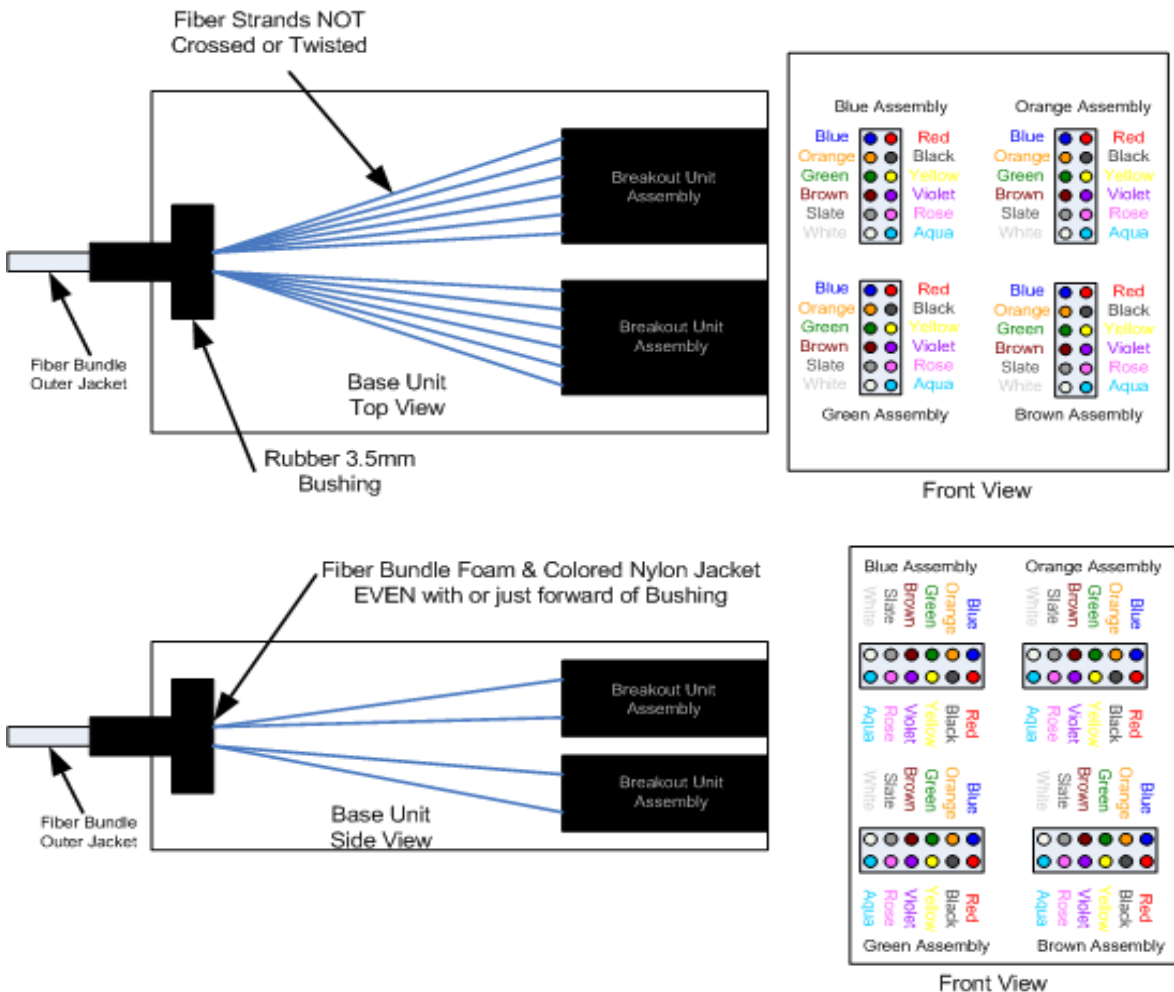

Figure 8
7.8 Once all fibers are inserted into Breakout Unit Assemblies re-confirm that fiber strands are not crossed or twisted over each other between the end of the nylon jackets and the Breakout Unit Assembly block. Crossed fibers may cause additional optical attenuation due to macro-bending. (Our new units are longer than our previous units to allow more length between the PEF jacket and the assembly blocks which makes it less likely to cause attenuation issues.) If fibers are crossed, they should be carefully removed from the Breakout Unit Assembly tubes, straightened out, and re-installed. **See FIG. 8**